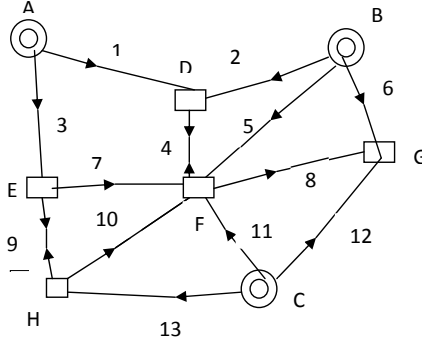

Figure 1: Water Network for Question 2
3. Figure 1 below illustrates the water network of Newvillage. The lines are water pipelines numbered from 1 through 13. The arrows on the lines are possible direction(s) of flow of water in these pipelines. The circles are water sources numbered A, B, C. The rectangles are houses D, E, F, G, H. The maximum possible capacity of the water sources are (the sources can operate at less than the maximum capacity): A: 100 Units, B: 100 Units, C: 80 Units Demands of water in the houses are: D: 50 Units, E: 60 Units, F: 40 Units, G: 30 Units, H: 70 Units Since the houses are at different elevation and the pipes are of different diameter, the cost of transporting water is different in the different pipes. These costs per unit of water are: Pipe 1: \$2, Pipe 2: \$3, Pipe 3: \$4, Pipe 4: \$2, Pipe 5: \$3, Pipe 6: \$2, Pipe 7: \$4, Pipe 8: \$1, Pipe 9: \$2, Pipe 10: \$4, Pipe 11: \$5, Pipe 12: \$1, Pipe 13: \$2. Formulate an LP to minimize the total cost of transporting water so as to meet the water demands of each house.